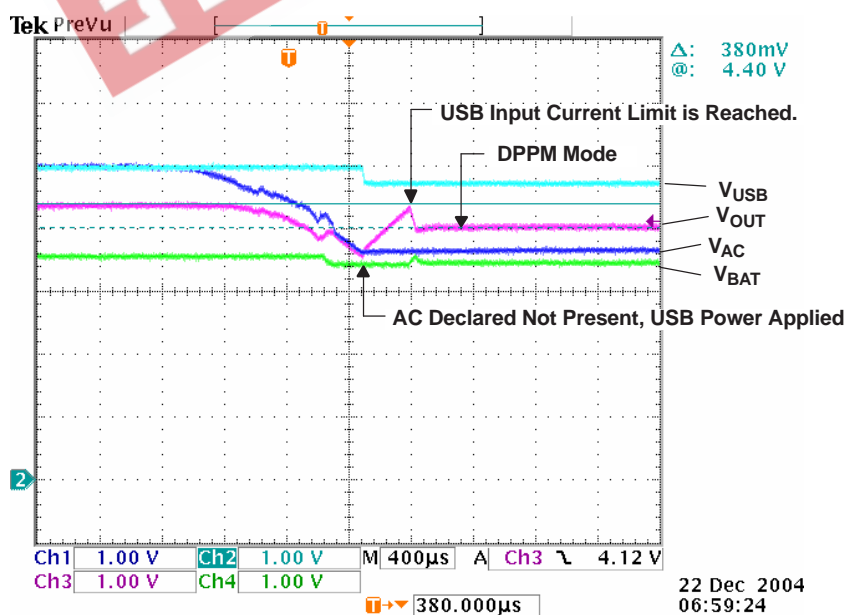

Figure 7. Remove AC – PWR XFER to USB
Figure 7 illustrates when AC is removed, power transfers to USB; PSEL = H (AC primary source); channel 1 (CH1) V_{AC} = 5.4 V; channel 2 (CH2) V_{USB} = 5 V; channel 3 (CH3) V_{OUT}; output current, I_{OUT} = 0.25 A; channel 4 (CH4) V_{BAT} = 3.5 V; and I_{PGM-CHG} = 1 A. The power transfer from AC to USB only takes place after the primary source (AC) is considered bad (too low, V_{AC} ≤ V_{BAT} + 125 mV) indicated by the ACPG FET turning off (open drain not shown). Thus, the output drops down to the battery voltage before the USB source is connected (6th div). The output starts to recover when the USB FET starts to limit the input current (7th div) and the output drops to the V_(DPPM-REG) threshold.